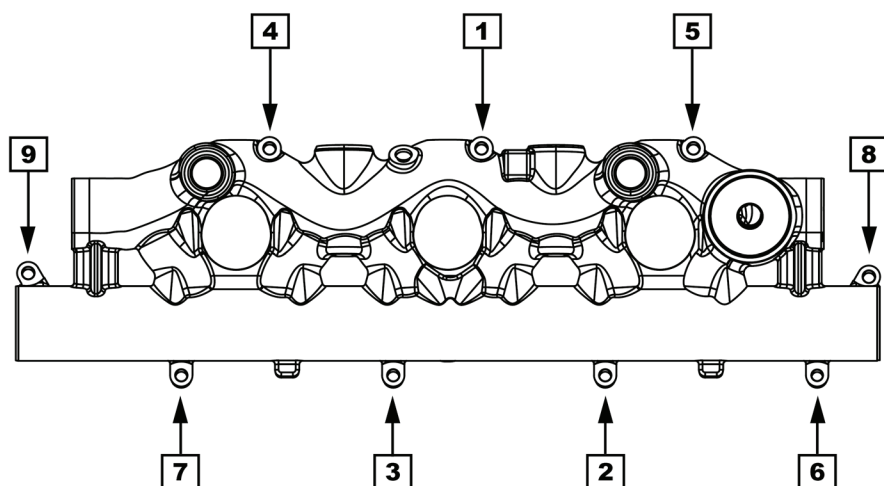

Fig. 1
5. With the High-Pressure oil rail off, lubricate and install the supplied fuel injector manifold tube plug (C).
6. Reinstall the high-pressure oil rail, start all T-30 Torx bolts by hand, and torque each bolt to 10 lb-ft (120 in-lb) following the specified sequence. **(Fig. 1)**
7. Prepare the dummy plug for installation by generously lubricating its seals with the supplied lubricant (E), then torque to 60 lb-ft.
8. Generously apply lubricant (E) to the seals on the upper portion of the standpipe, then torque to 60 lb-ft. This will secure the upper and lower portions together and finalize the seal in the branch tube port.